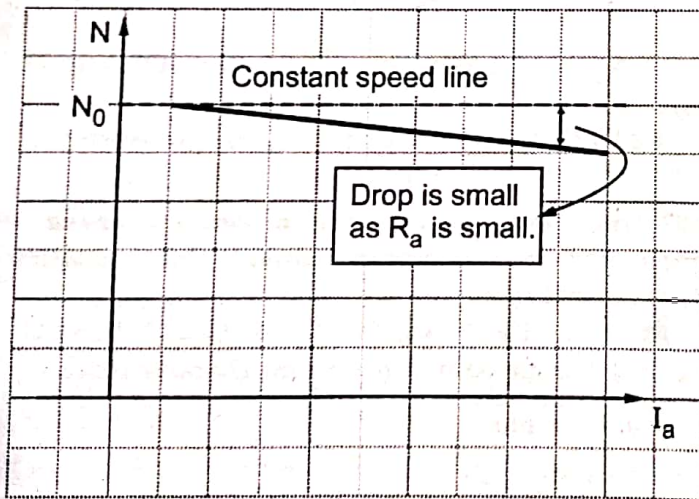

Fig. Q.47.2 N Vs I_a for shunt motor
- So the characteristics is slightly dropping as shown in the Fig. Q.47.2.